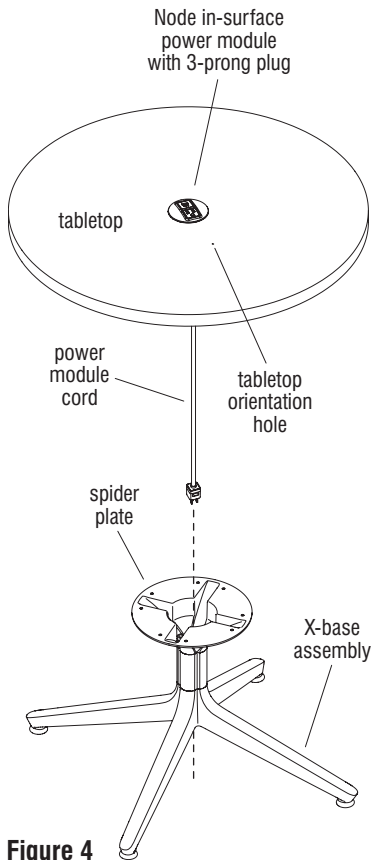

Figure 4
7. Carefully turn the X-base assembly to the upright position on the floor (Figure 4).
down the hole on top of the spider plate on the X-base assembly. Continue to route the cord down the leg column, while also lowering the tabletop down onto the spider plate, until the 3-prong plug end exits the bottom of the leg column and the tabletop fully rests on top of the spider plate (Figure 4).